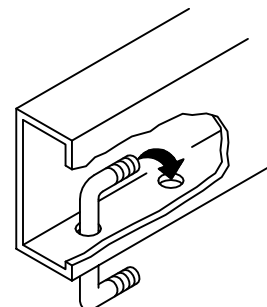

FIG. 2
3. LOWER SIDE ARMS AND INSERT THE 3/8 U-BOLTS THROUGH THE FRAME AS SHOWN IN FIG. 2. RAISE SIDE ARMS INTO POSITION AND INSTALL THE 3/8 CONICAL WASHERS AND NUTS ON THE U-BOLTS.